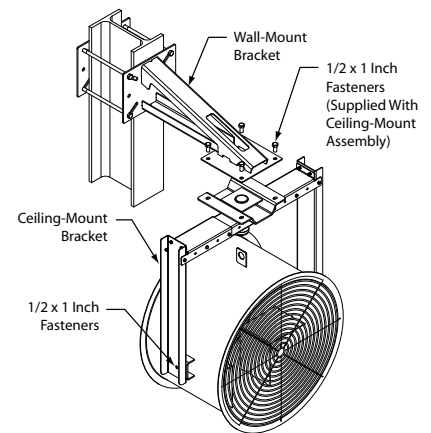

Figure 14 — Wall-Mount Bracket and Ceiling-Mount Bracket Connection
5. Align fan housing in the desired position for air flow and fasten to the assembled Ceiling-Mount Bracket using (2) 1/2 x 1 inch fasteners.
6. Attach an assembled Ceiling-Mount Bracket with fan to the mounted Wall-Mount Bracket using (4) 1/2 x 1 inch fasteners. Refer to Figure 14.